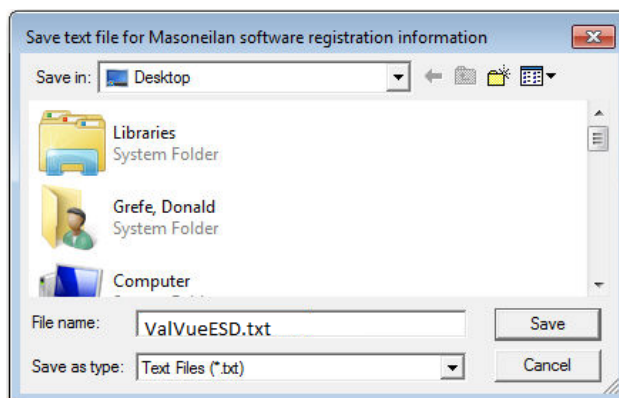

Figure 25 - Save Registration Information
6. Click **Save to File** to save your registration file. A Windows browser appears (*Figure 25*).